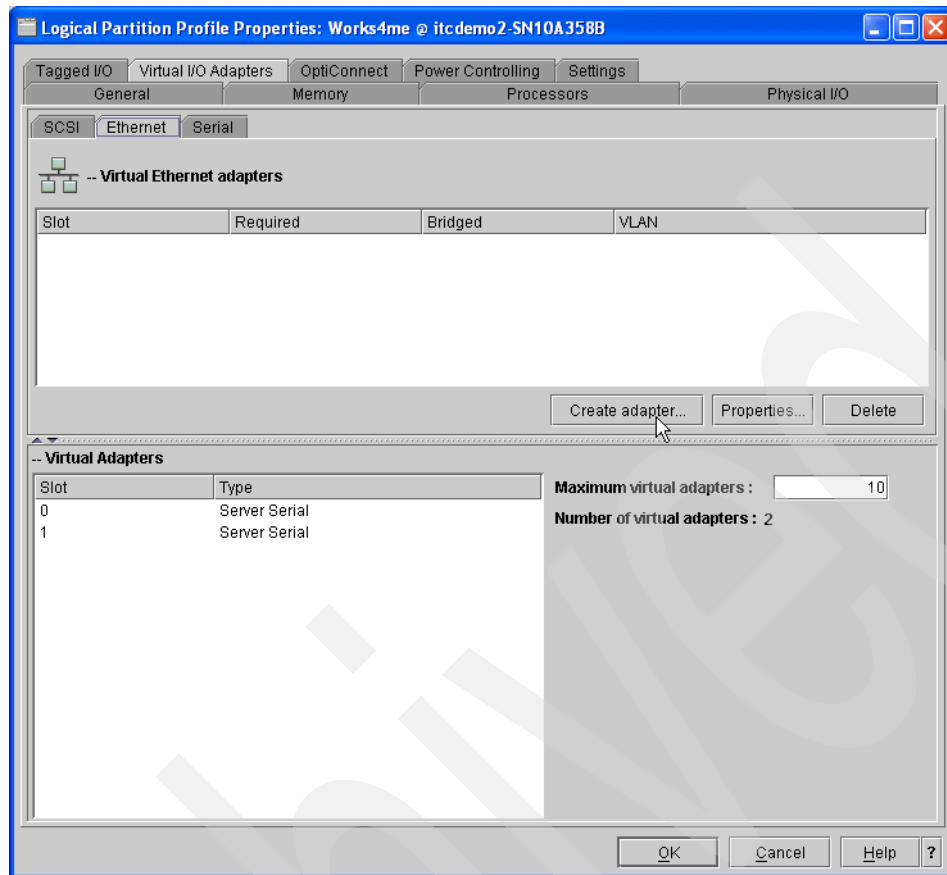

Figure 8-8 Creating Virtual Ethernet resources - 1
3. Select the **Virtual I/O Adapters** tab, then the **Ethernet** tab as shown in Figure 8-8 on page 318.